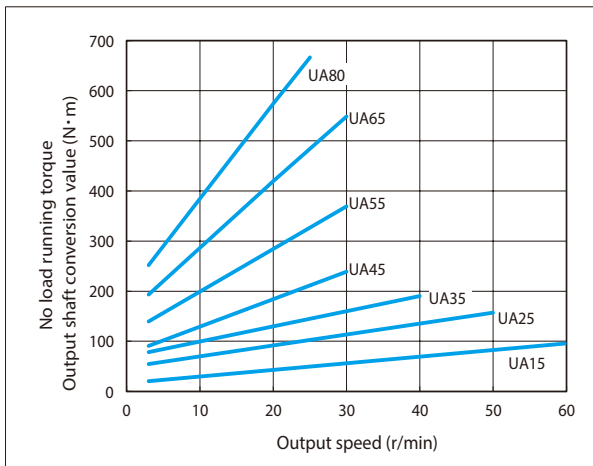

Figure 13 No load running torque value
- Figure 13 shows the average value after running-in.
Note) Figure 13 indicates the output shaft conversion value of the no load running torque, so convert to the value of the input shaft by the following formula.